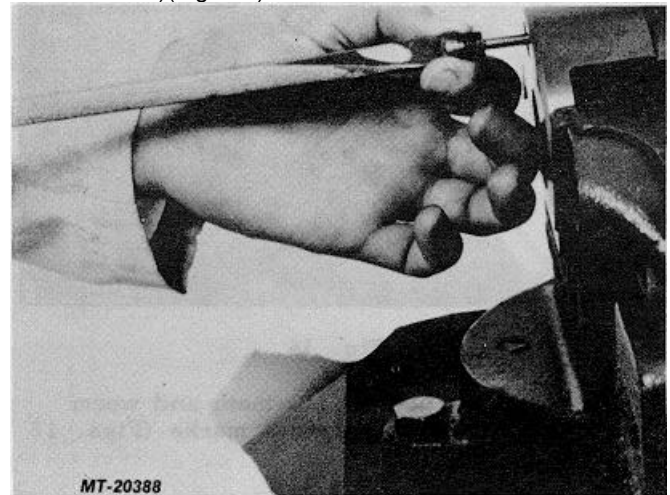

Fig. 22
3. Assemble spring (36), rod (35), poppets (34), poppet seals (33) and retaining ring (32) into rack piston (31). Torque poppet seats to 27-34 Nm (20-25 ft.lbs.)(Fig. 22).